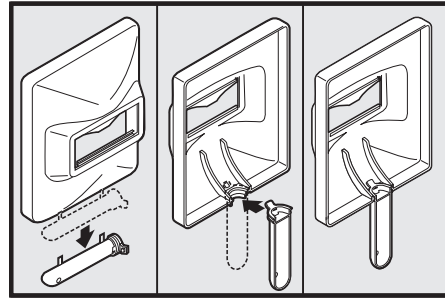

Figure 6
1. Cut detachable handle away from shield. Trim the excess plastic to remove sharp edges – see Figure 6.
2. To attach the handle, place shield on a flat surface and press handle into place – see Figure 6.